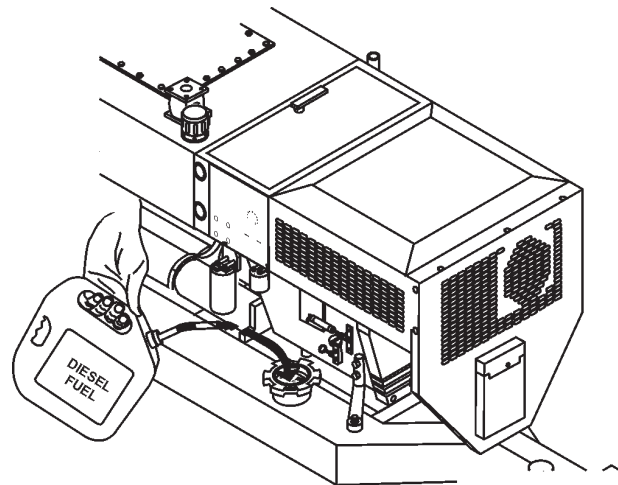

Figure 10. Adding Diesel Fuel
6. If fuel is low, remove fuel filler cap and fill with #2 **diesel fuel** (Figure 10).